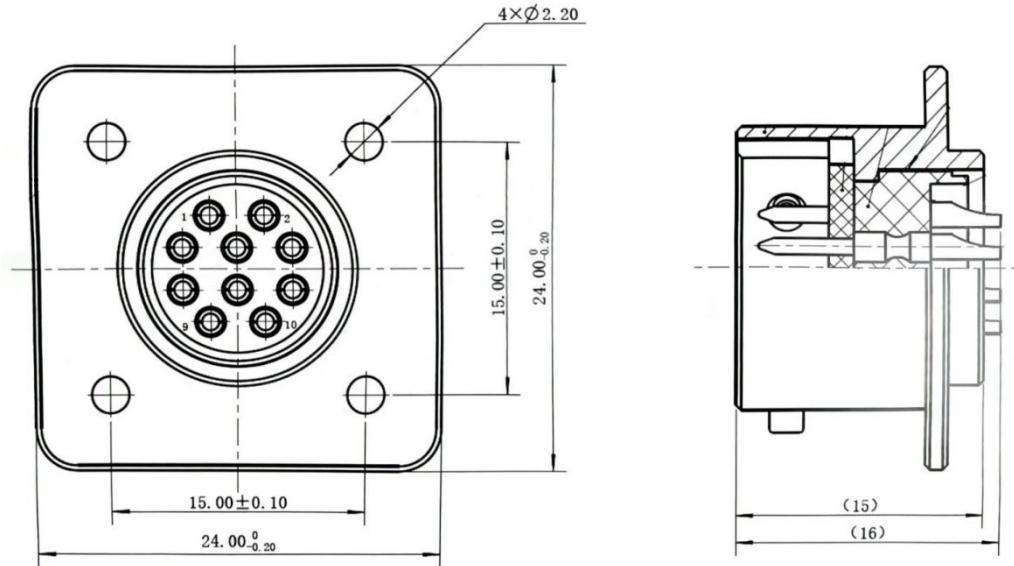

Figure 1. ZH127-1-10/14-B1-1-B receptacle product dimensions drawing
- The overall dimensions of the ZH127-1-10/14-B1-1-B receptacle product are shown in Figure 1.